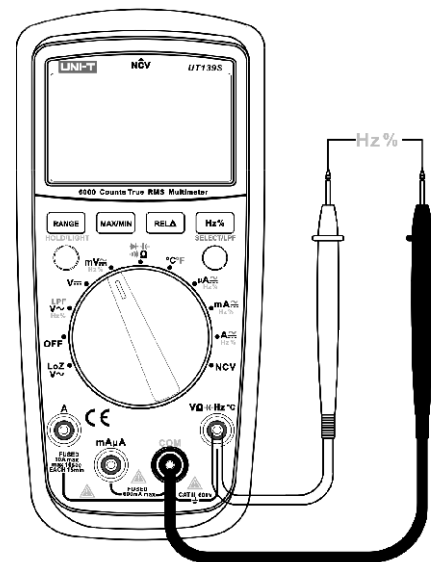

Figure 7
6. Frequency/ Duty Ratio measurement (see figure 7)